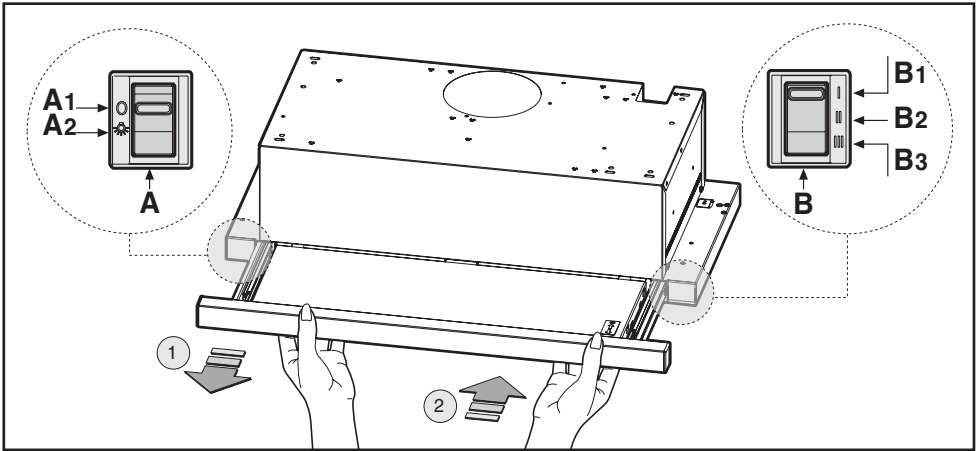

Fig.9.1
• **Commands (Fig.9.1) slider** the key symbols are explained below: